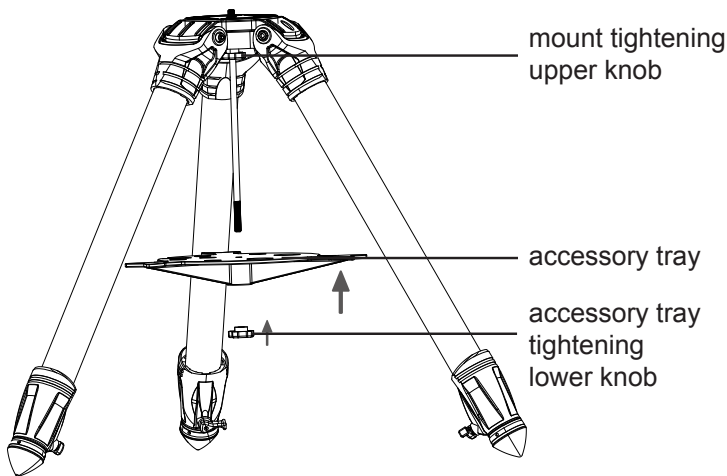
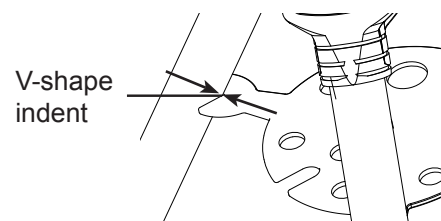

Fig. 1.1c
Fig. 1.1d
2. Install the accessory tray and the lower knob on the central rod (Fig 1.1c). Place the V-shaped grooves of the accessory tray against the tripod legs. Tighten the lower knob loosely to allow turning the upper knob later (Fig 1.1d).
- Loosen the 3 clamp levers on the tripod legs to extend the tripod legs to the desired length (Fig 1.1d).